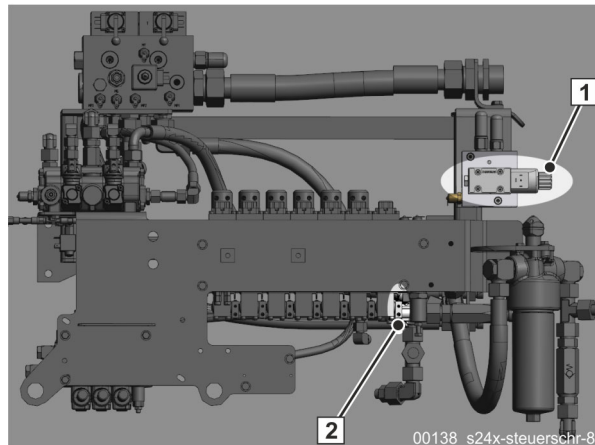

Fig. 532 S24X control cabinet
- Press valve (1) (**Fig. 532**) for the oil flow.
- Screw in control lever (2) (**Fig. 532**) on the control block and hold down the control lever in order to activate the “Chamber valve” function.